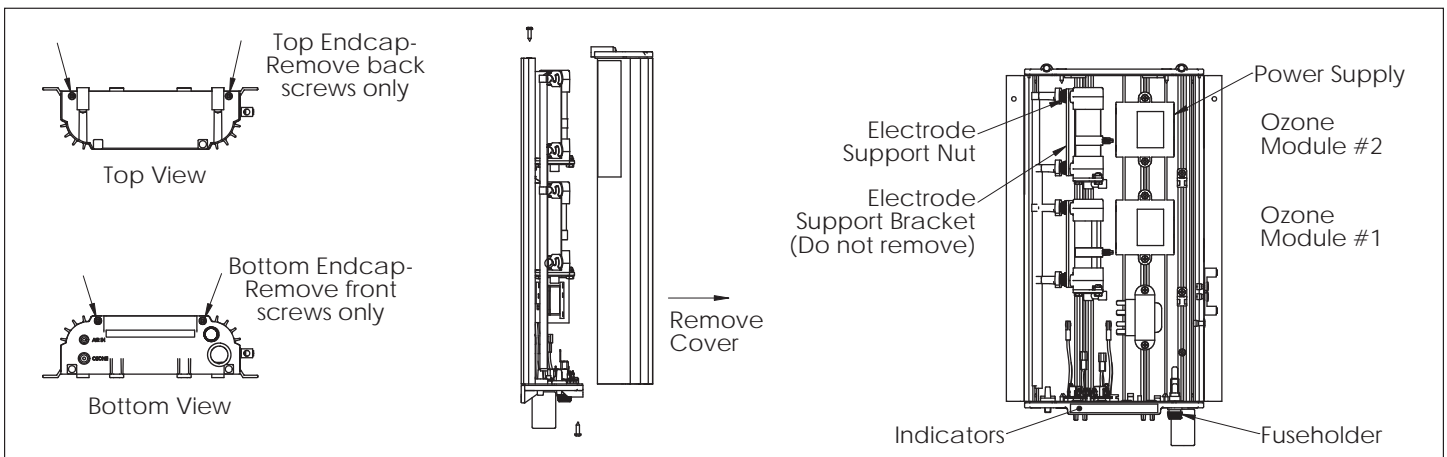

Figure 4 Component Locations (COP-2-B Shown).
Refer to Figure 4.
4C Generator Servicing - Refer to Figure 4
3. From the Bottom End-cap, remove the 2 front screws. See Figure 4 - Do not remove the screws securing the unit to the wall.